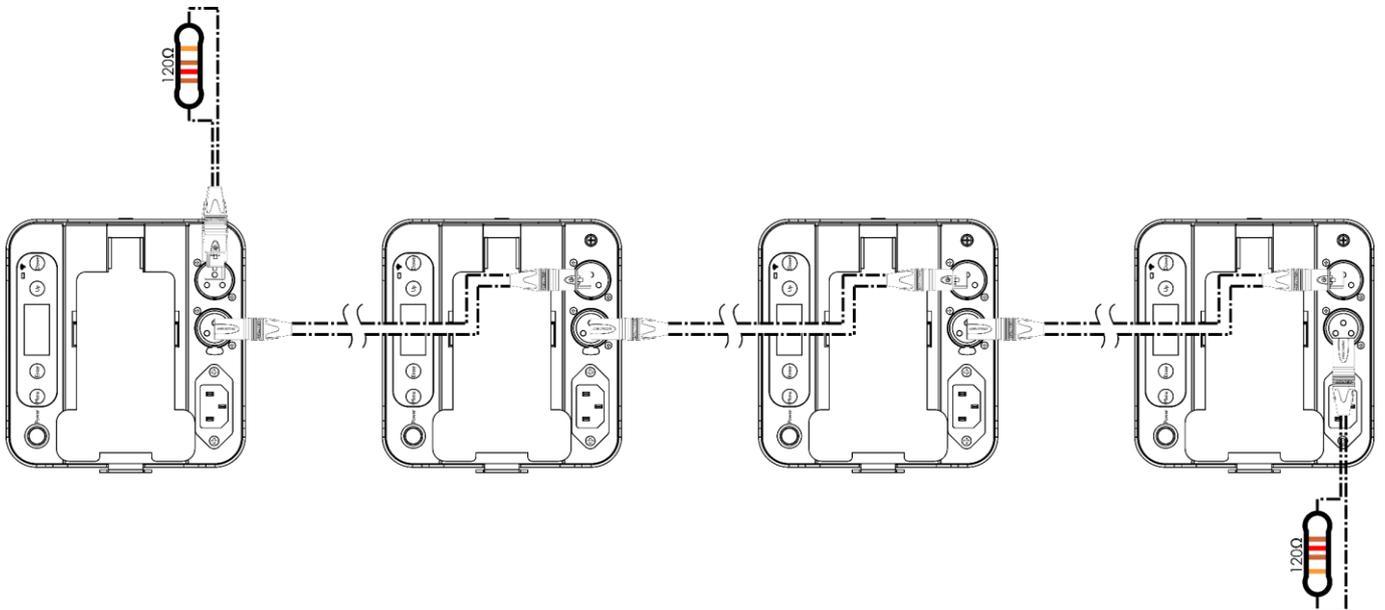

Fig. 04
- 04) Link the units as shown in (Fig. 04). Connect a DMX signal cable from the first unit's DMX "out" socket to the second unit's "in" socket. Repeat this process to link the second, third and fourth unit. You can use the same functions on the master device as described on pages 23-24 (Manual, Auto or Built-in programs). This means that you can set your desired operation mode on the master device and all slave devices will react the same as the master device.